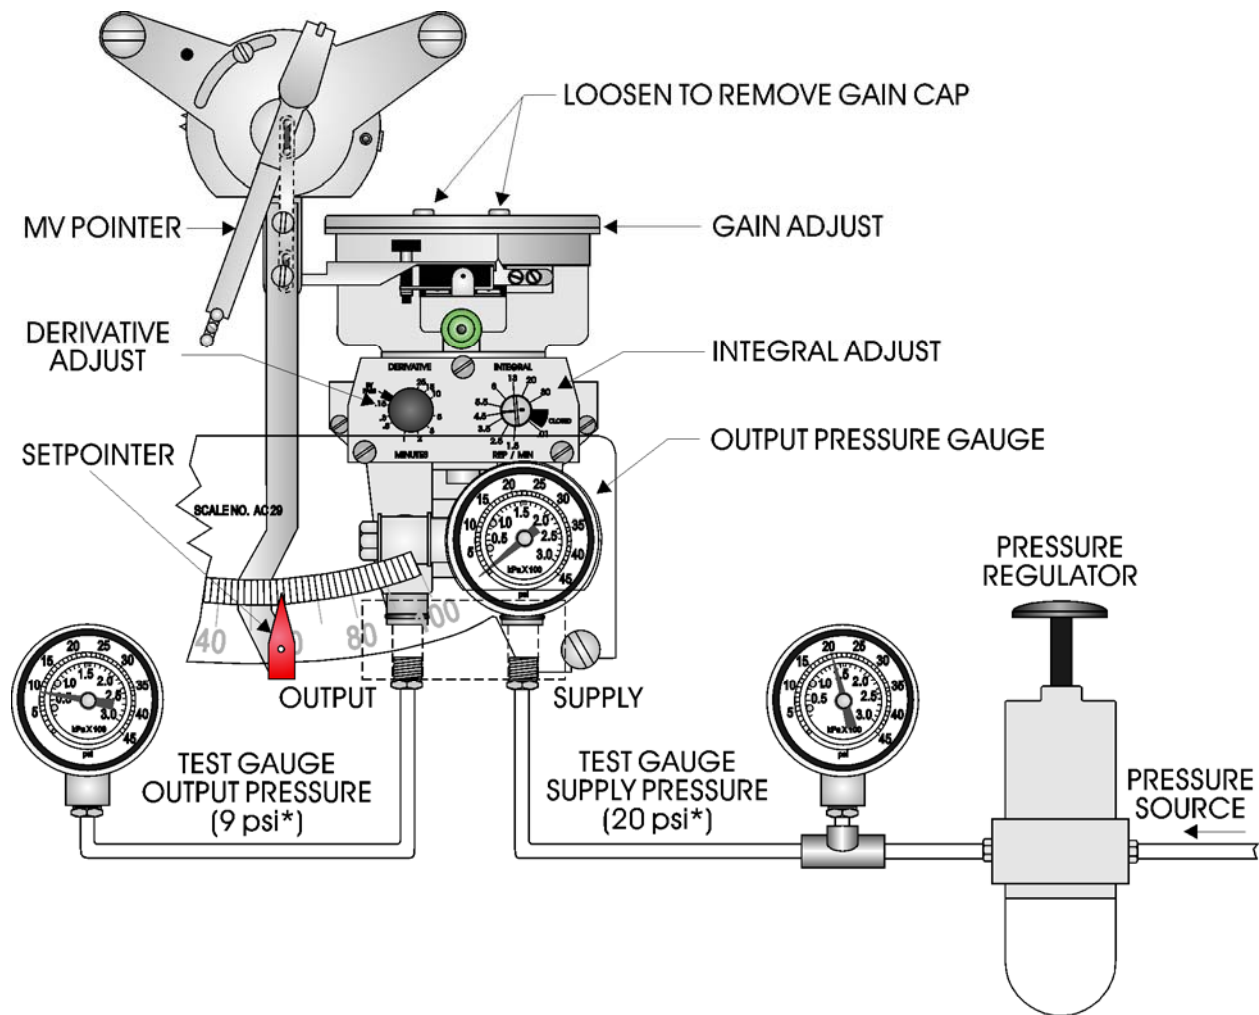

Figure 3-10 - Controller Calibration Setup
12. Connect Controller as shown in Figure 3-10 and adjust the regulated supply source to 20 psi* (see Table 3-3).